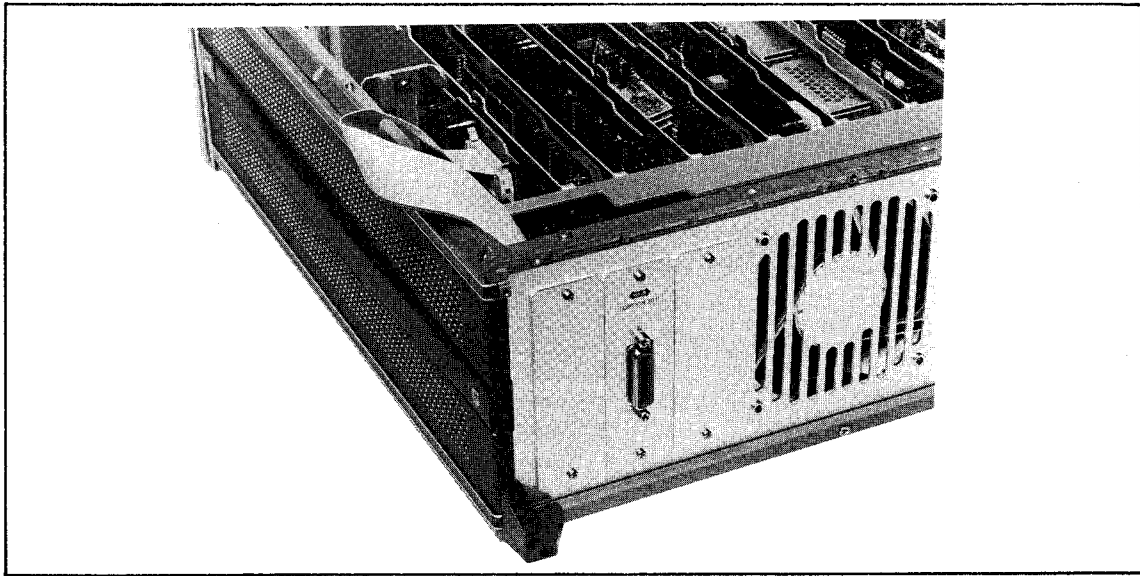

Figure 2-6. Option 101 Set Up
4. Remove the blank panel installed over the second slot from the left on the rear panel, and install the HP-IB Panel as shown in Figure 2-6.
5. Connect the HP-IB Assembly's female connector to the male connector on the HP-IB Interface board (A20J1), as shown in Figure 2-6.